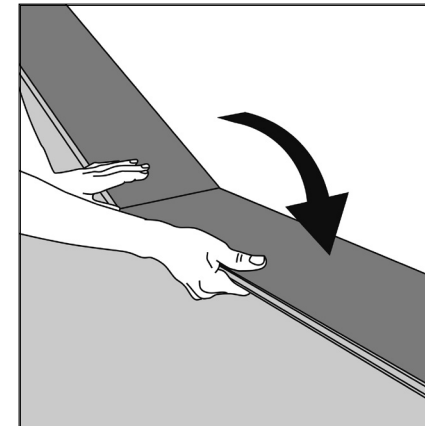

Figure 2 Second plank, first row
- > Press the short end of the next plank/tile at an angle to the first one (Fig 2), and then lay down. Complete the first row in the same way.